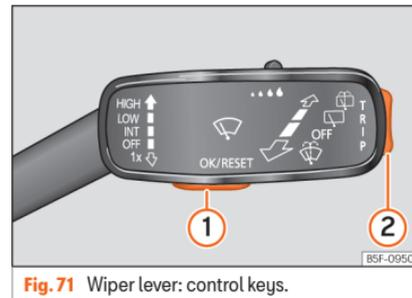

Fig. 71 Wiper lever: control keys.
menu. Some warnings can be confirmed and hidden with the button »» Fig. 71 ①.